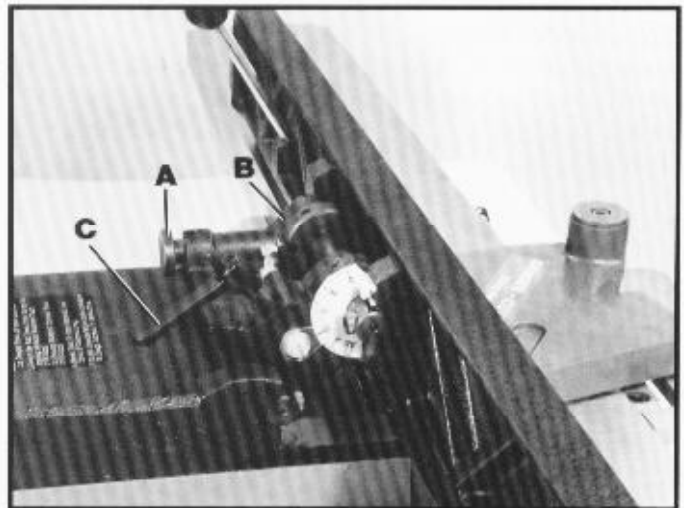
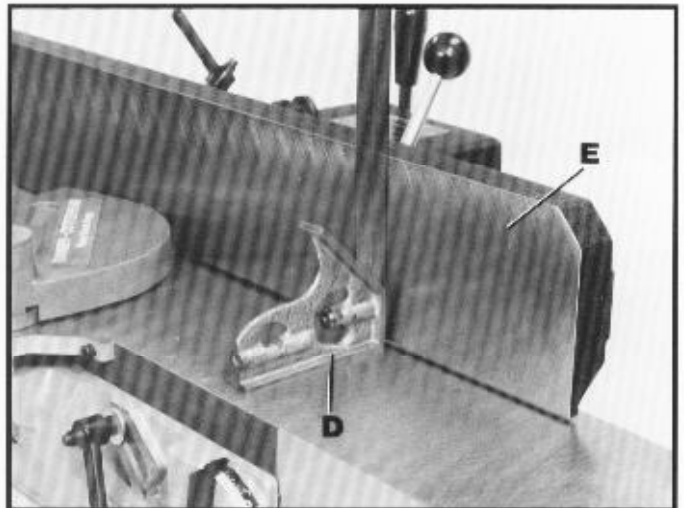

Fig. 19
Fig. 20
To check the accuracy of the positive stops, position the fence at 90 degrees to the table by making certain the end of plunger (A) Fig. 19, is engaged in notch in the index collar (B) as shown, and tighten lockhandle (C). Place a square (D) Fig. 20, on the jointer table and against the fence (E).